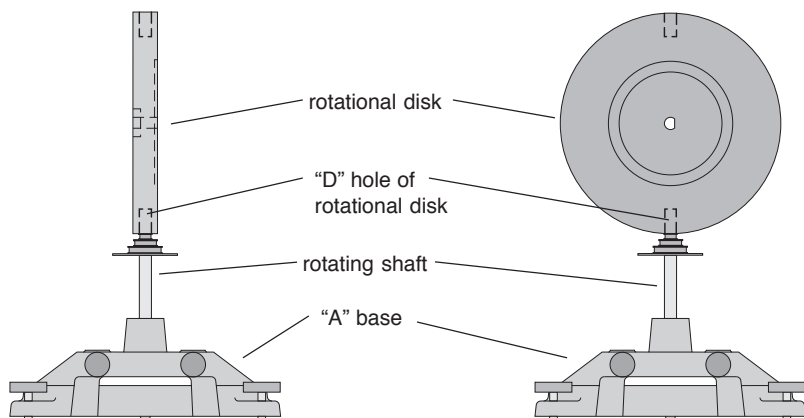

Figure 4.4
5. Remove the disk from the shaft and rotate it up on its side. Mount the disk vertically by inserting the shaft in one of the two “D”-shaped holes on the edge of the disk. See Figure 4.4.